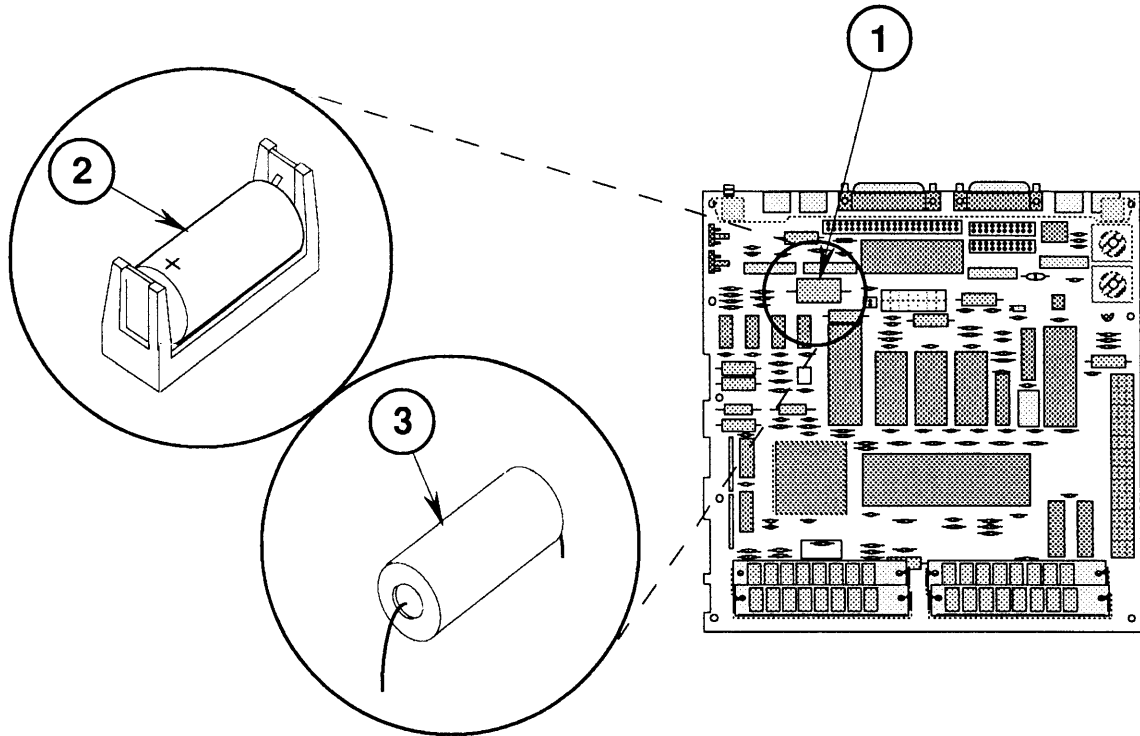

FIGURE 17
1. Identify the customer's battery configuration (Figure 17, #1):
- a) If the battery is installed in a battery holder (Figure 17, #2), use replacement logic board 661-0536 and go directly to the steps for replacing the logic board (see "Replace").
- b) If the battery is soldered to the logic board (Figure 17, #3), perform step 2 next.